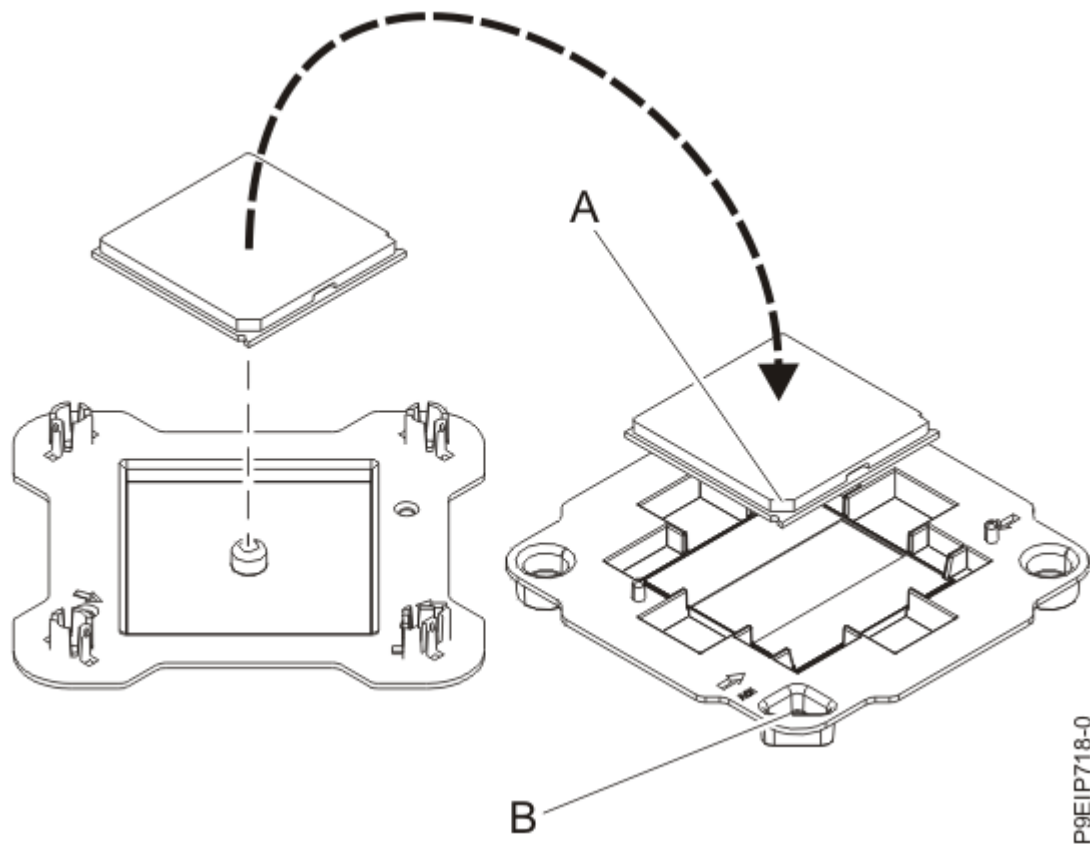

Figure 64. Placing the system processor module into the shipping tray
9. Lightly grip the system processor module that you replaced by the edges and lift it off the shipping cover. Align the beveled corner of the module **(A)** to the corner of the tray with the triangle **(B)** and place it in the tray, as shown in Figure 64 on page 68.